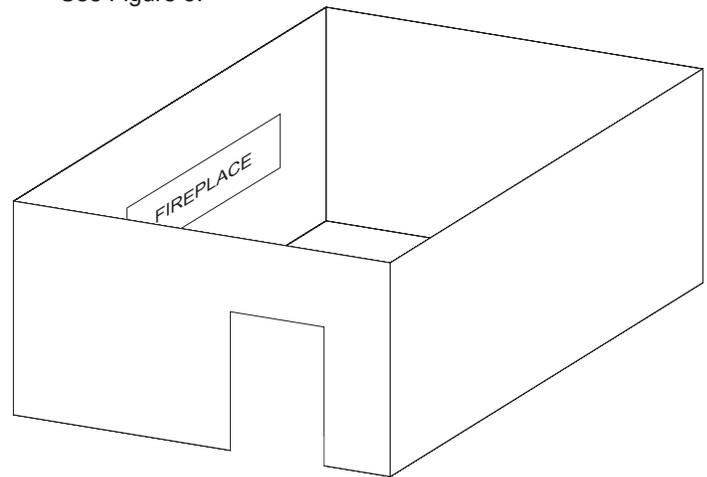

Figure 5
- With walls on all sides, but with no overhead cover. See Figure 5.